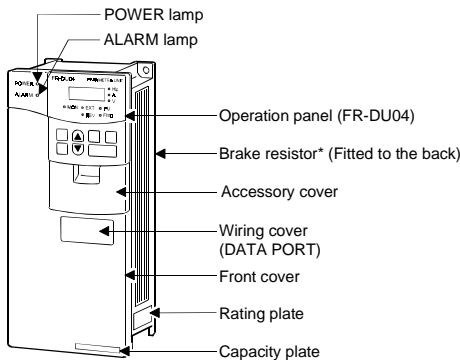

Figure 2-5 : Wiring Cover (DATA PORT)
- (1) Set the two station number switches , page 3 , for an address between 0 and 63. Any number out of the range of 0 to 63 is automatically changed to 63 by the option unit software.
- (2) Be sure that the FR-A5ND option unit is snugly inserted into the inverter and the option unit connector is fully and firmly seated before proceeding.
- (3) Remove the wiring cover (DATA PORT), Figure 2-5, from the inverter cover.
- (4) Reinstall the inverter cover making sure that DATA PORT opening is aligned with the DeviceNet connector.
- (5) Connect the DeviceNet thin drop cable to the inverter by inserting the 5-pin connector through the DATA PORT opening into the DeviceNet standard socket on the option unit.